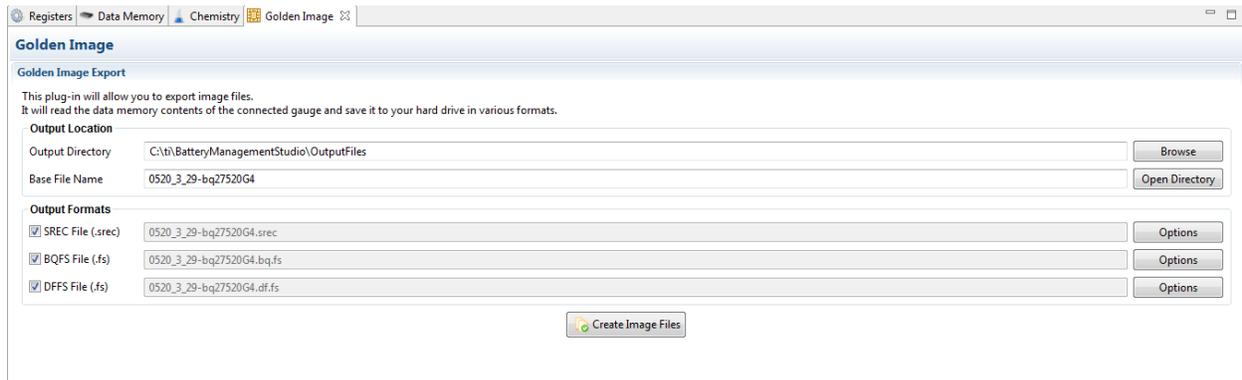

Figure 9. Extracting the golden image
The golden file can be extracted by clicking the golden image tab and then clicking the create image files button if one of the srec, bqfs or dffs field box is checked. see Figure 9. The srec and bqfs both contain the instruction flash (IF) and dataflash (DF) while the DFFS contains just the data flash content which is why it is a smaller in size than either of the aforementioned files and is the preferred file format for in-system gauge programming.